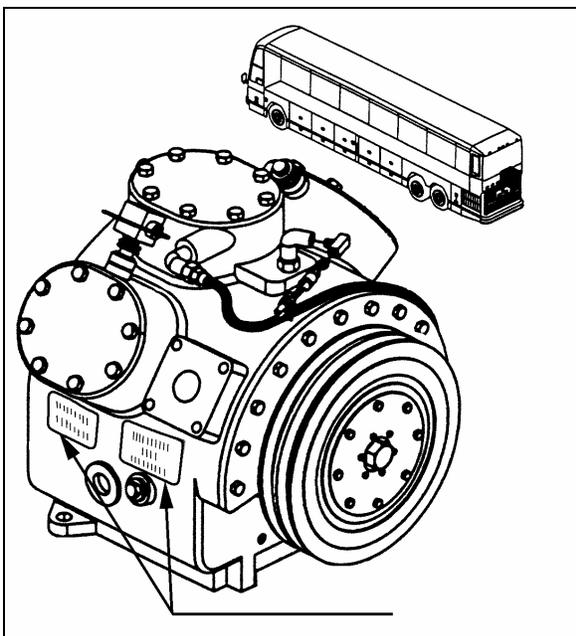

Figure 2 : Rear engine compartment. Compressor's serial number location.
**Refer to figure 2 to know the compressor’s serial number location.*